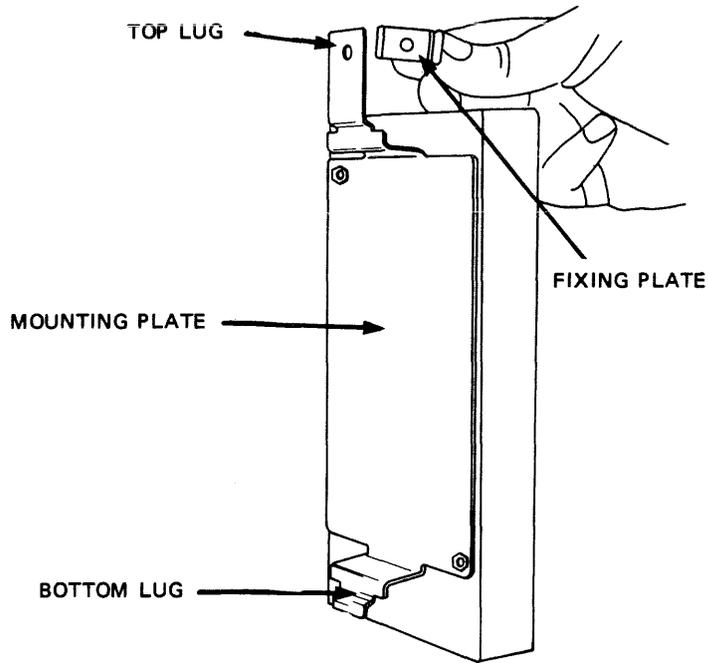

Figure 2-10 Connector Panel Mounting Plate
- b) The mounting plate at the rear of the connector panel is shown in Figure 2-10. The fixing plate must be removed before mounting the connector panel in position.